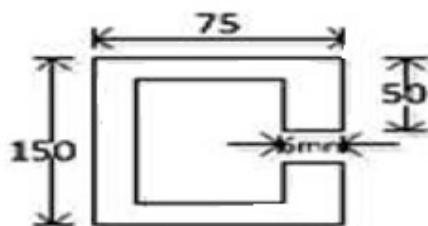

Figure 1
b) Locate the shear centre of the section shown in Figure 1. Thickness is 6mm throughout.